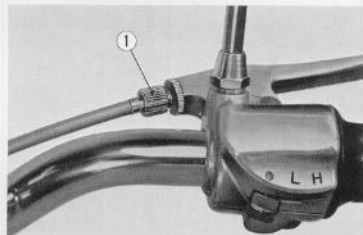
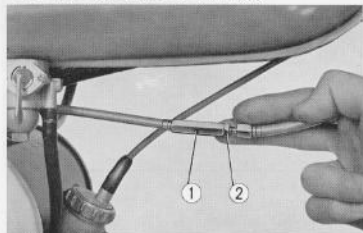

Fig. 4.16A ① Clutch cable upper adjuster
Fig. 4.16B ① Clutch cable adjuster ② Lock nu
**NOTE :** The adjustment of the clutch lever free travel can be made at both clutch cable upper adjuster ① (Fig. 4.16A) and at the clutch cable adjuster ① (Fig. 4.16B)